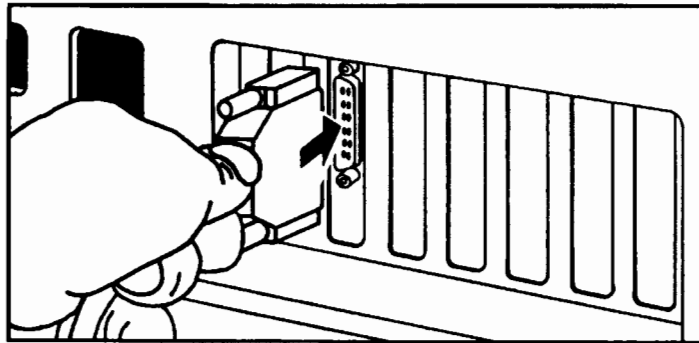

Figure 2-7. Connecting the Interface Cable to the Computer
1. Attach the smaller end of the interface cable to the connector on the scanner interface card that you installed. See figure 2-7.